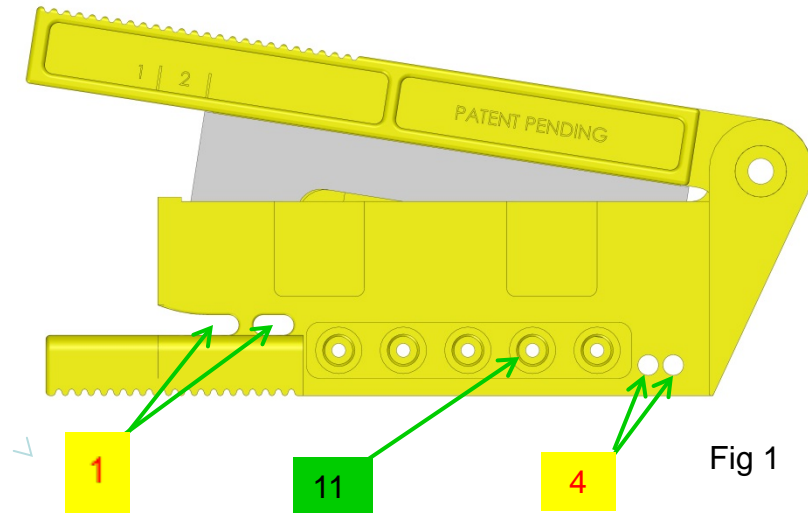

Fig 1
1. If necessary, use the tool to cut the plastic optical fiber from the cable spool or just finishing the bare cable in slots # 1 as shown in (Figure 1).
3. Slide the slit POF cable into the strip hole, Item 4 in Figure 1. You want to strip at least 1” of jacket off the cable.